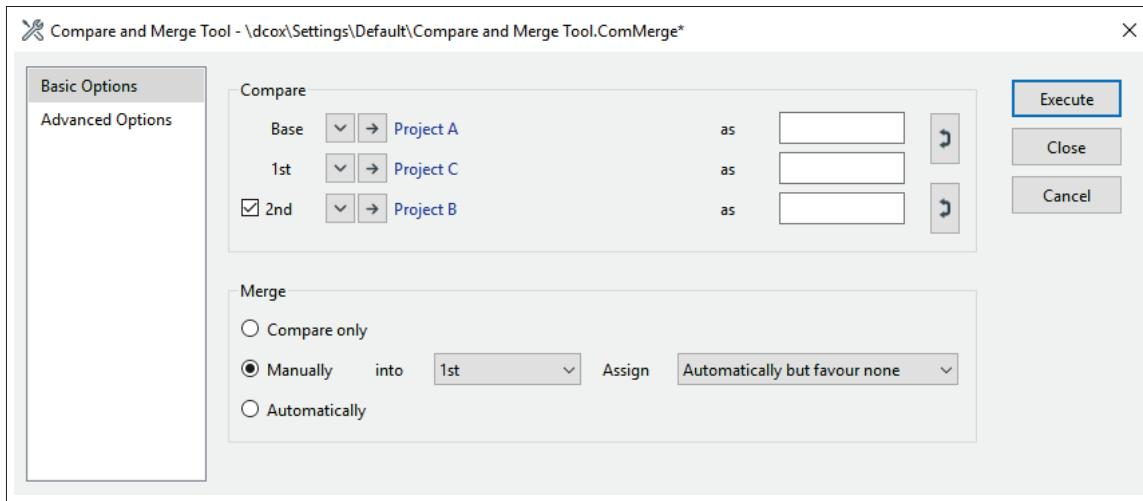

Figure 21.4.1: Compare and Merge Tool options dialog for a three-way merge
3. Right-click the multi-selection and select the option *Compare to “<project>”*. The CMT options dialog will appear as shown in Figure 21.4.1. The <Base>, the <1st> and the <2nd> project are listed in the *Compare* section of the dialog.